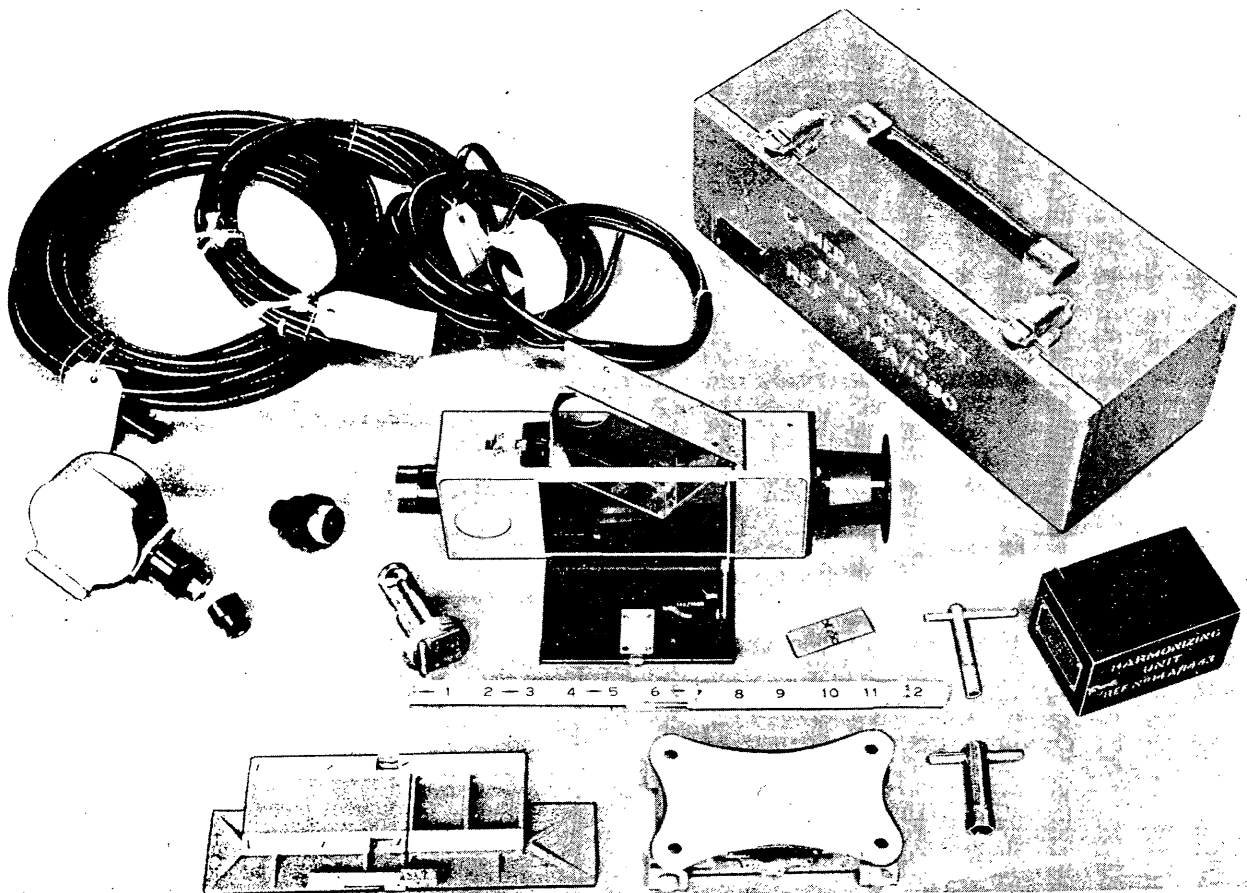

Figure 111 - G-45 Camera - Open
a. General. - A government furnished G.S.A.P. type N-2 gun camera may be mounted on the rear of the N-3A gun sight. Provisions have also been made for the mounting of a type G-45 gun camera on the under surface of the right wing panel. Attach the camera fairing at the nut plates on the bracket assembly, indicated by an arrow, on the under surface of the wing. For details of the type G-45 gun camera, see figures 111 and 112.
lar assembly on the adapter ball. Type G-45 - To adjust the type G-45 camera laterally or vertically, unbutton the four Dzus fasteners on the fairing access door on the right side of the fairing. Allowance is made for a total vertical adjustment of 6° (3° up or 3° down) from the camera centerline parallel to the thrust line. Allowance is also made for a horizontal adjustment of 3° or 1°30' either side of the camera centerline. (See figures 111 and 112.)